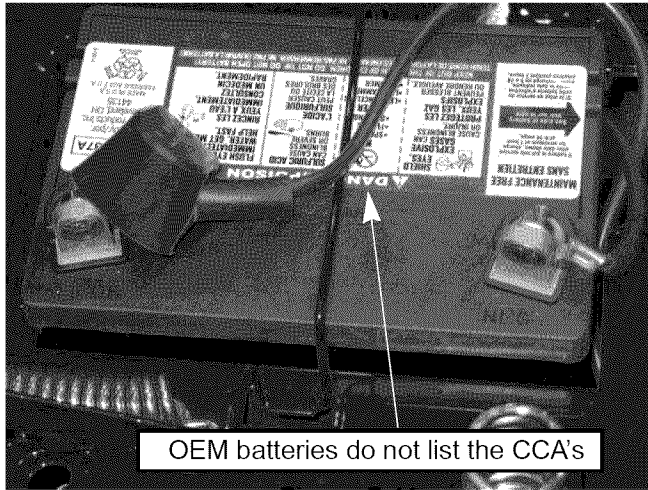

Figure 7.41
**NOTE:** CCA stands for cold cranking amps. The rating should be on the battery for aftermarket batteries. For OEM batteries, contact the manufacturer for the CCA rating. Most riding mower batteries are 200-275 CCA. See Figure 7.41.